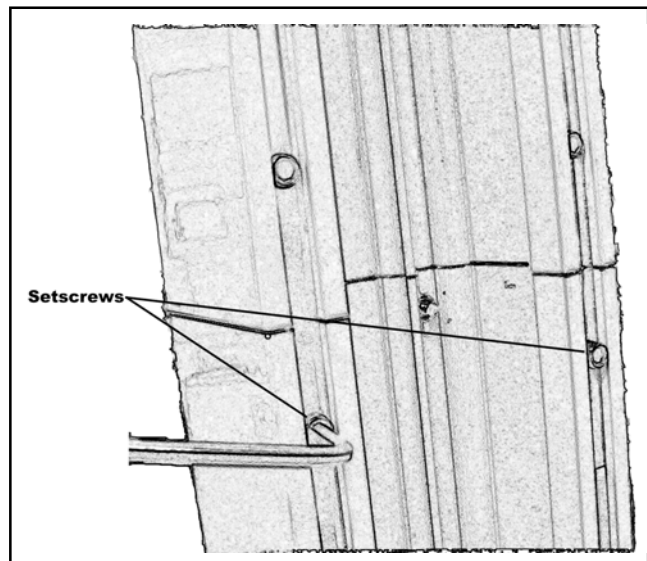

Figure 2-5—Column Cap Setscrews
- Assemble the column cap onto the column as shown in Figure 2-5.